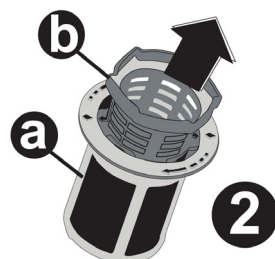

Fig. 14
- Remove the coarse filter from the micro-filter (Fig. 14).
- The drain connection (fig. 14) should be at a minimum of 600mm and a maximum of 1100mm from the floor. The drain hose should be no longer than 4m in length to ensure good performance from the dishwasher.
Figures 14 and 15 **on page 27** show the recommended installations of our dishwashers. The set-ups in these figures should be mimicked wherever possible to help to ensure the best performance of the appliance. **Please carry out the below checks/measures before, during and after installation.**